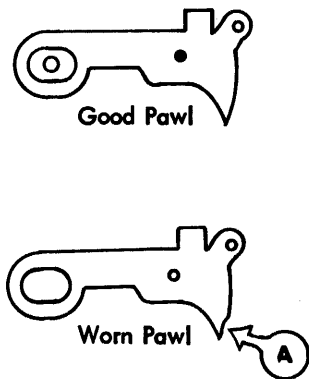

Figure 3.1
- 1.8 Backspace may go a full space but a worn escapement pawl will cause the carrier to skip ahead 1/2 space. See Fig. 3.1. Look for this condition under powered operation. To prevent a reoccurrence, replace the escapement pawl AND rack.